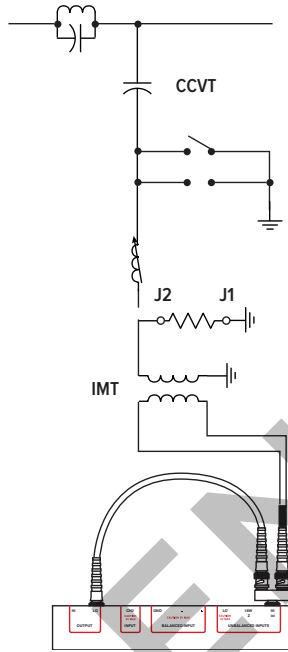

FIG 1 - IMT TEST CONNECTIONS
8. Connect the Model 730 test box white terminal (J2) to the output of the impedance matching transformer & the black terminal (J1) to ground (See Figure 1). This connects the test box for resistance only.